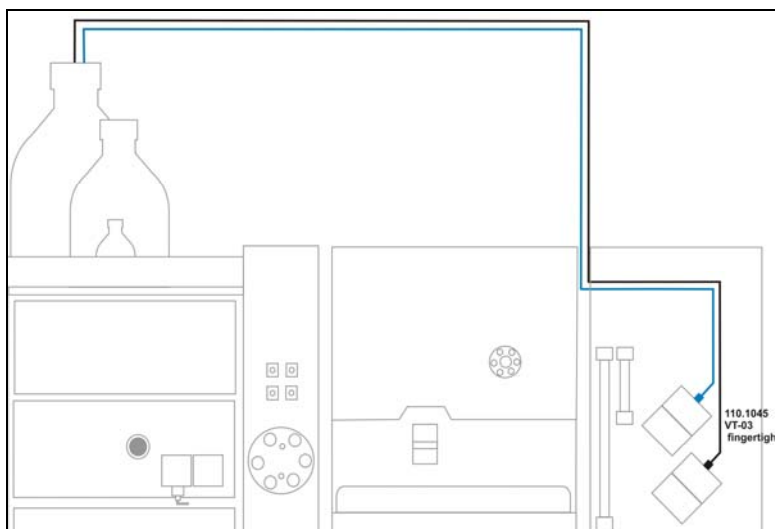

Figure 17. Assembly H: Connection between cell – waste bottle.
14. **Assembly H DECADE II outlet assembly (180.0218):** Two assemblies H are provided to connect the flow cells to the waste bottle(s). Connect the PEEK tubing to the outlet of the VT-03 flow cell using the KEL-F fingertights (p/n 110.1045). Guide the tubing through the tubing hole in the DECADE II into the waste bottle as depicted in figure 17.